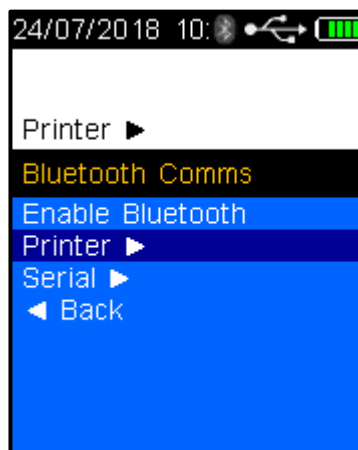

Figure 82 - Selecting Printer
- Press the down button once and use the test key to select Printer (Refer to Figure 82).